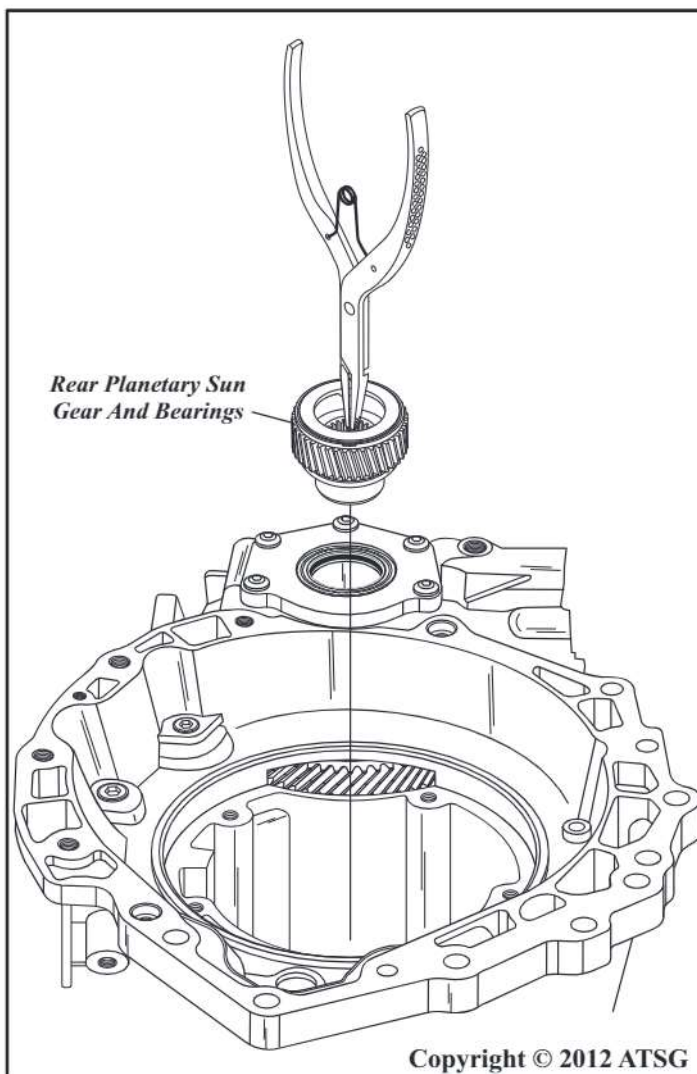

Figure 253
49. Install the rear planetary sun gear and bearings as an assembly using a pair of snap ring pliers, as shown in Figure 253, by rotating to engage planetary gears until fully seated.